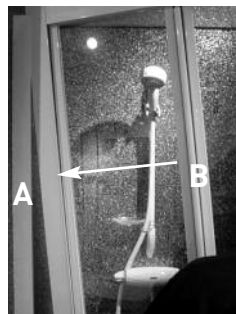
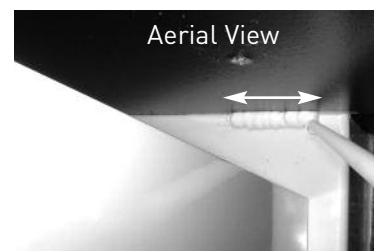

Figure b4
Figure b4i
④ Slide the remaining Wall Profile (A) over the Bi-fold Door (B) and then slide the Bi-fold Door into the fitted Wall Profile (**Figure b4**). Where the remaining Wall Profile is to be positioned on the Tray, place a bead of bathroom sealant (not supplied) the width of the Wall Profile along the tiled wall (**Figure b4i**).